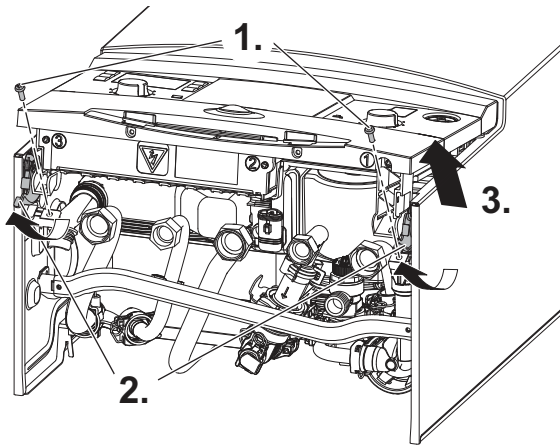

Fig. 26 Releasing the control panel
5. Refer to figure 26 and release the two screws securing the lower part of the case.